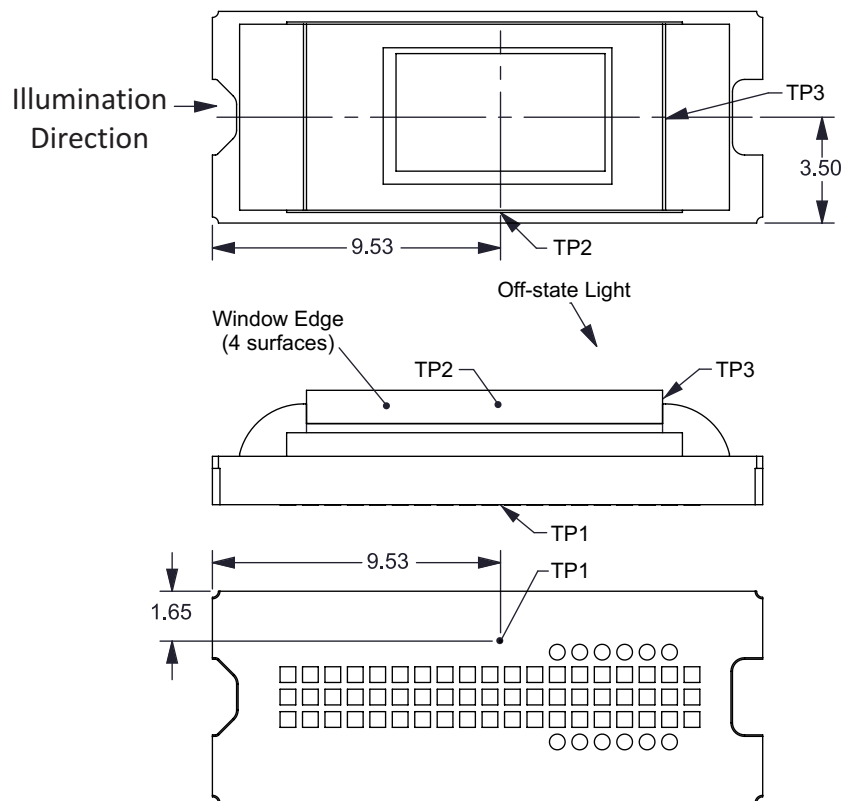

Figure 19. DMD Thermal Test Points
- $T_{\text{CERAMIC}}$  = Measured ceramic temperature (°C), TP1 location in Figure 19
- $Q_{\text{ARRAY}}$  = Total DMD power; electrical plus absorbed (calculated) (W)
- $Q_{\text{ELECTRICAL}}$  = Nominal DMD electrical power dissipation (W)